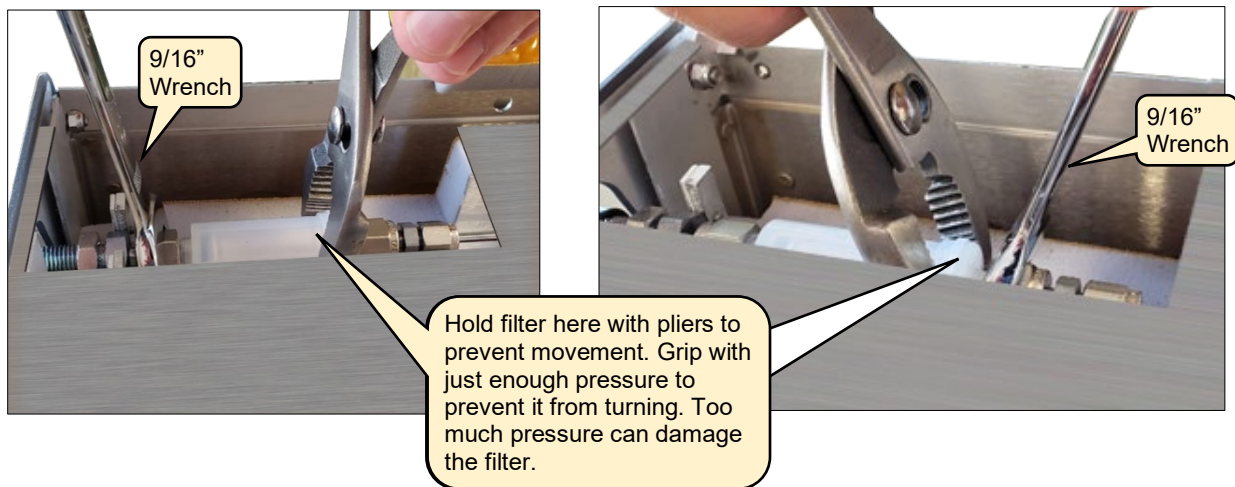

Figure 16: Loosening Filter Input and Output Nuts
8. Inspect the filter input/output connector nut interfaces for damage. Also inspect the PTFE ferrules on the tubing inside the nuts as shown in Figure 16. Replace any damaged ferrules with the new ones provided in the filter kit.